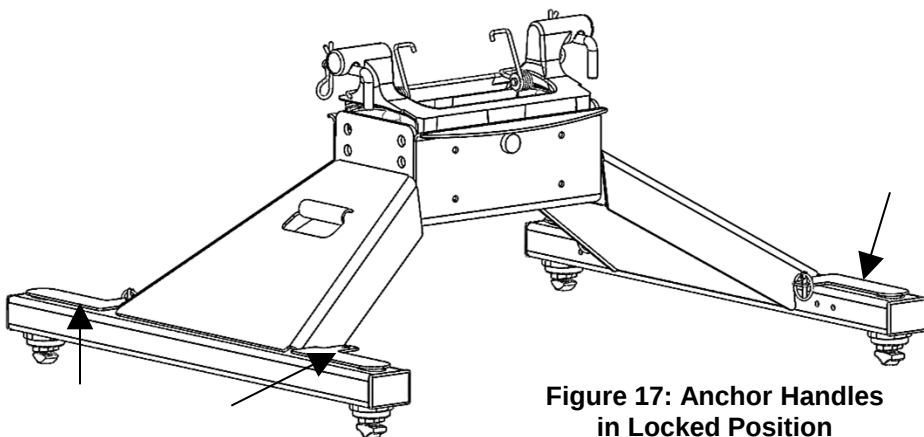

Figure 17: Anchor Handles in Locked Position
3. Rotate (4) handles into locked position (with locking holes through base arch shell) and overlapped on each side (Figure 17).
3. Remove lynch pin / lock from the overlapping handle holes on each side of the hitch (Figure 17). Store lynch pins.